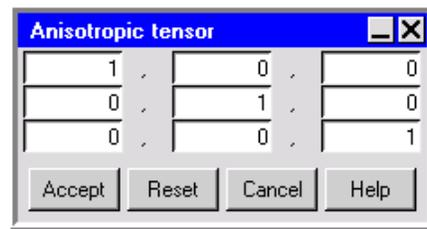

Figure 7.7.3: The Anisotropic tensor Panel
- To specify an anisotropic thermal conductivity, specify the thermal **Conductivity** and then select **Anisotropic** from the **Conductivity type** drop-down list. To define the degree to which the anisotropic conductivity varies in each direction, specify a scaling factor for the conductivity in each of the **XX**, **XY**, **XZ**, **YX**, **YY**, **YZ**, **ZX**, **ZY**, and **ZZ** directions, respectively, next to **Tensor**. Alternatively, you can click on the **Edit** button to the right of the **Tensor** text entry field. This opens the **Anisotropic tensor** panel (Figure 7.7.3).